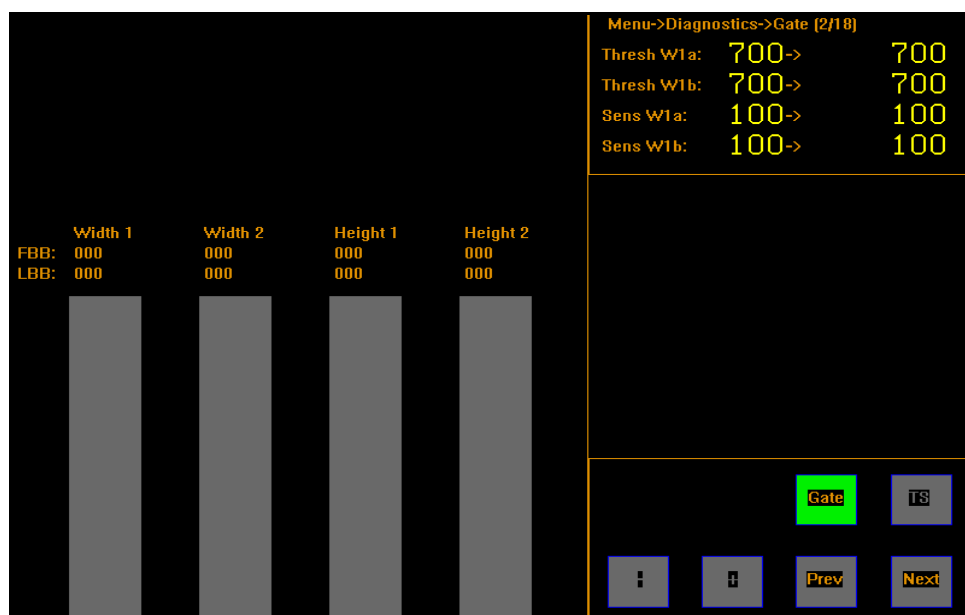

Figure 71
LED beam bars are gray when no light beams are being broken (as seen above in Figure 71), which typically means that there is no object in the CubiScan 225's measurement range.
- If all LED sensors are functioning properly, the LED beam bars should be all gray, with no yellow lines visible (as shown in Figure 71).